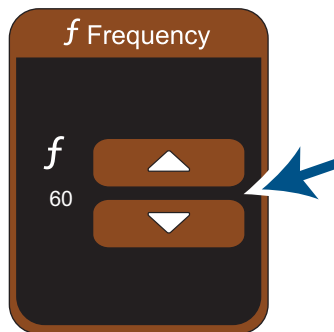

Figure 22. Increasing or decreasing the frequency
3. Tap  or  to increase or decrease the frequency of the program (*Figure 22*).